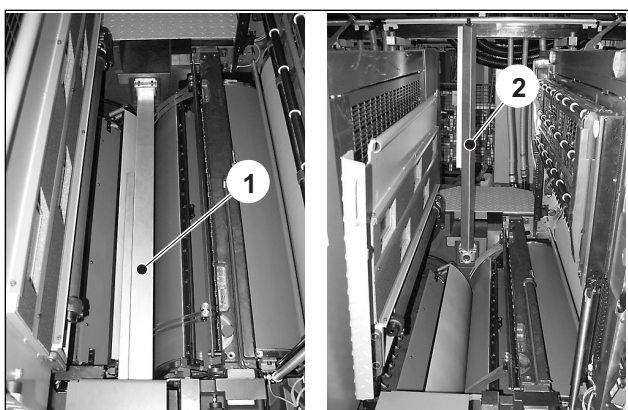

Fig. 24 Swinging up the blower bar
2. Lift the blower bar (Fig. 24/1) on O.S. out of its bracket and swing the blower bar toward D.S. and upward (Fig. 24/2).